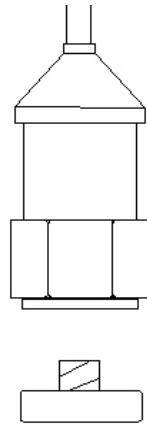

Fig. 3
5) If the surface material of measuring article is the ferrous material, connect " Vibration sensor " ( 3-13, Fig. 1 ) with the " Magnetic base " ( 3-14 ), refer Fig. 3.